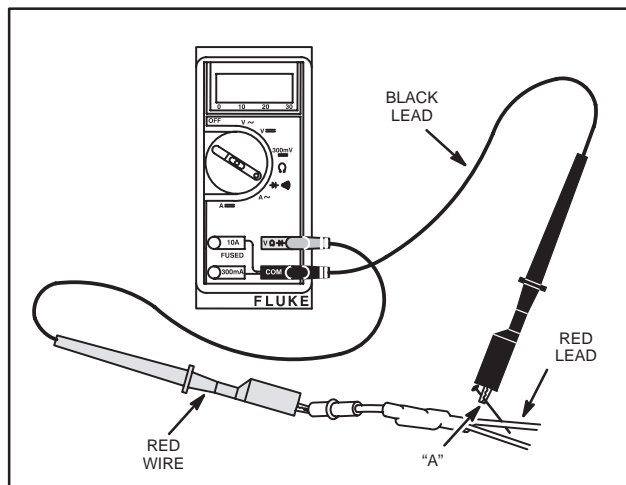

Fig. 769 – DIODE TESTING – CHARGING CIRCUIT
4. Attach BLACK test lead clip to point “A,” Fig. 769. (It may be necessary to pierce wire with a pin as shown.)